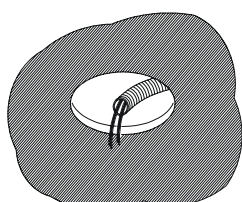

Figure 1
Step 1 – Cutout the hole size, either by tracing the cardboard cutout template or with a circular cutter set to the cutout sizes listed above. Pull the wiring through the cutout hole. (Figure 1)